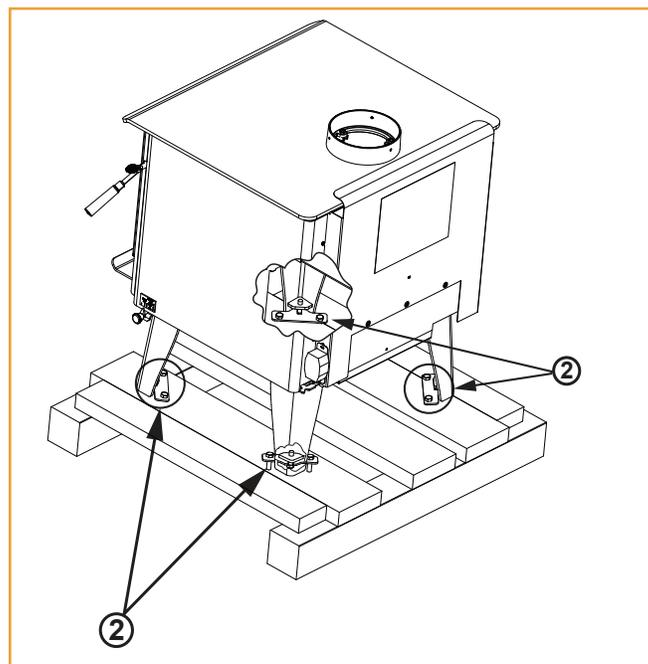

Figure 6.1
2. Using 7/16 socket or wrench remove (2) lag bolts and shipping bracket located at each leg of the appliance. **(Figure 6.1). Note:** Retain shipping brackets if being installed into a Mobile Home.